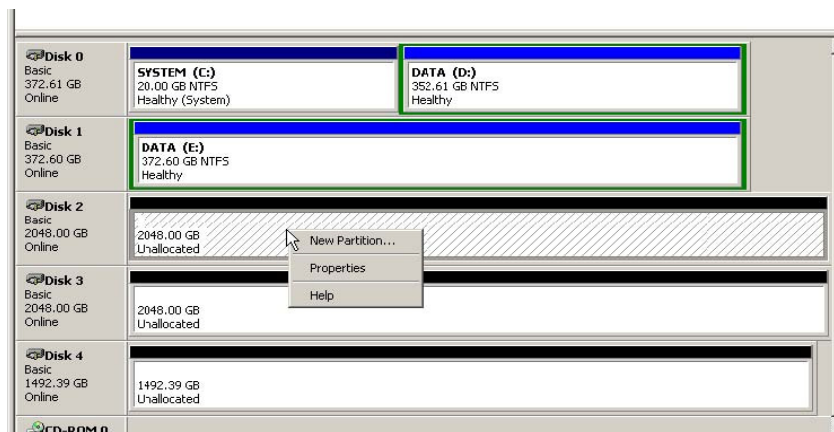

Figure 16
9. Right click **Unallocated space** next to Disk2 and select **New Partition**. (See Figure 16)